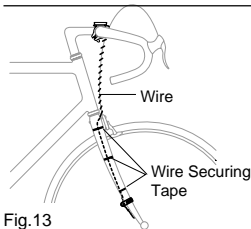

Fig.13
- Secure the wire with tape as in Fig. 13. Wind the wire round the outer cable upto the handlebar. When adjusting the length, be careful that the wire will not hinder handlebar operation.